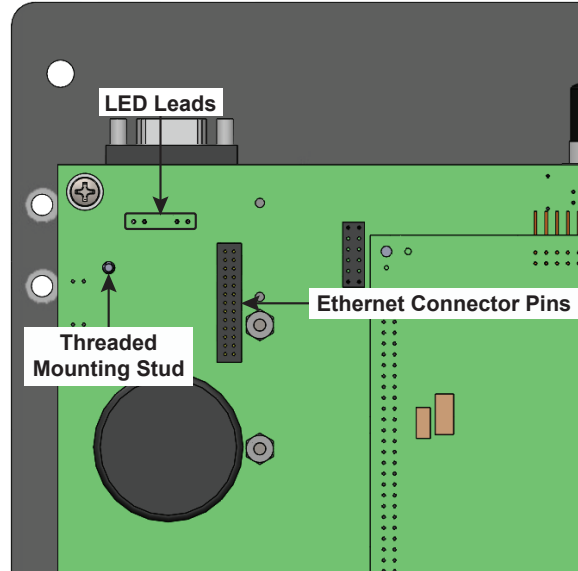
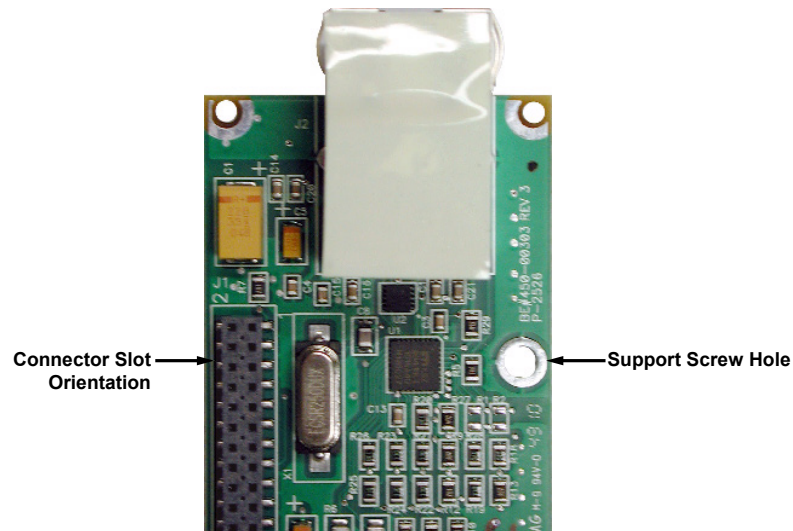
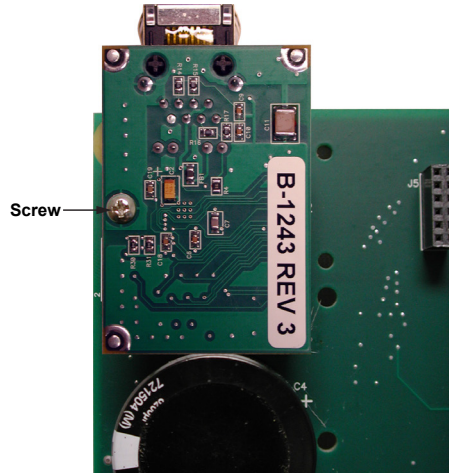

Figure 2-2 Main PCB, Upper-Left Corner
Figure 2-3 Bottom of Ethernet RJ-45 Board, Connector Orientation
Figure 2-4 Main PCB, Ethernet RJ-45 Board Installed
1. Locate the Ethernet connector pins and threaded mounting stud (Figure 2-2) on the upper left hand corner of the main PCB.
3. Observing the orientation of the connector slots (Figure 2-3) on the Ethernet RJ-45 board, mount the RJ-45 board onto the Ethernet connector pins (Figure 2-2) of the main PCB.
**■ NOTE:** Verify that the RJ-45 connector on the Ethernet board does not contact the LED leads (Figure 2-2) protruding from the main PCB. If the LED leads contact the RJ-45 connector, perform the following:
4. Install one 4-40 x 1/4 screw into the standoff through the Ethernet board support screw hole (Figure 2-3). Figure 2-4 shows the Ethernet board properly mounted.